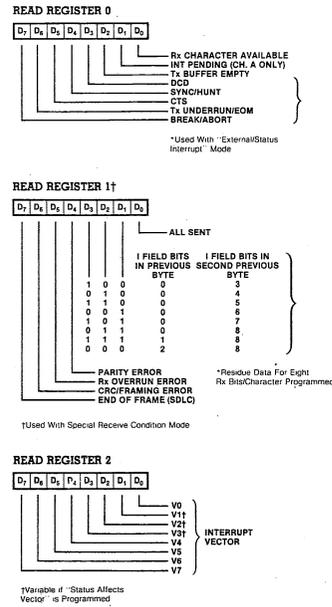

Figure 13. Read Register Bit Functions
bits in Read Register 0 (Figure 13), but have no other function. In the External Sync mode, these lines also act as inputs. When external synchronization is achieved, SYNC must be driven Low on the second rising edge of Rx $\bar{C}$  after that rising edge of Rx $\bar{C}$  on which the last bit of the sync character was received. In other words, after the sync pattern is detected, the external logic must wait for two full Receive Clock cycles to activate the SYNC input. Once SYNC is forced Low, it should be kept Low until the CPU informs the external synchronization detect logic that synchronization has been lost or a new message is about to start. Character assembly begins on the rising edge of Rx $\bar{C}$  that immediately precedes the falling edge of SYNC in the External Sync mode.
**Read Registers.** The SIO contains three read registers for Channel B and two read registers for Channel A (RR0-RR2 in Figure 13) that can be read to obtain the status information; RR2 contains the internally-modifiable interrupt vector and is only in the Channel B register set. The status information includes error conditions, interrupt vector and standard communications-interface signals.